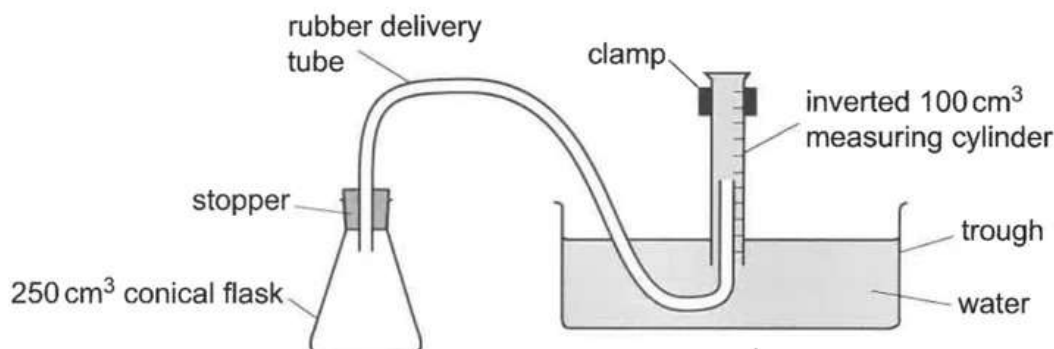

Figure 2.1
The student does five experiments using the apparatus shown in Figure 2.1.
- Set up the apparatus as shown in Figure 2.1. Ensure the inverted measuring cylinder is full of water.